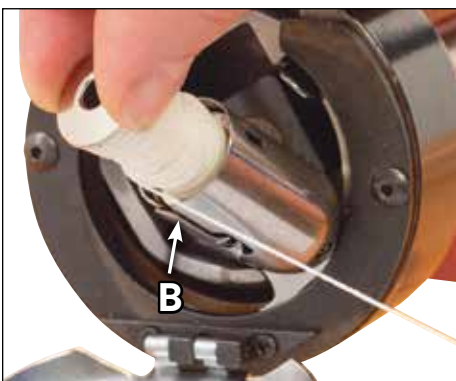

Figure 15
- 1) Slip the thread from the bobbin into the slot **(B)** at the base of the bobbin case. **(Figure 15)**